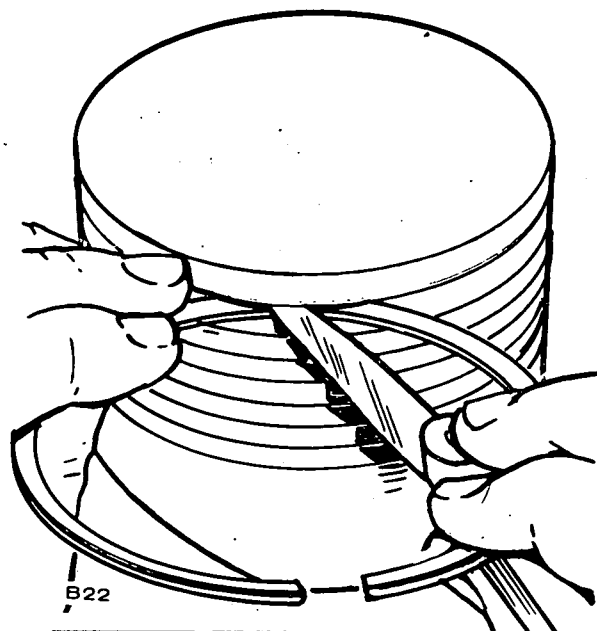

FIGURE 52. CHECKING RING SIDE CLEARANCE
8. Check for wear or breaks at the ring lands using a new ring and feeler gauge as shown in Figure 52. Replace the piston when the side clearance exceeds that shown in *DIMENSIONS AND CLEARANCES* section. If any piston is badly scored or burred, loose in the cylinder, has badly worn ring grooves or otherwise is not in good condition, replace it.